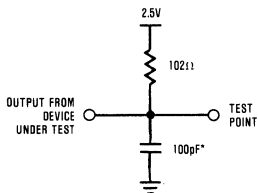

FIGURE 7.
3. All A.C. parameters tested as per test circuits in Figures 7—9. Input rise and fall times are driven at 1ns/V.